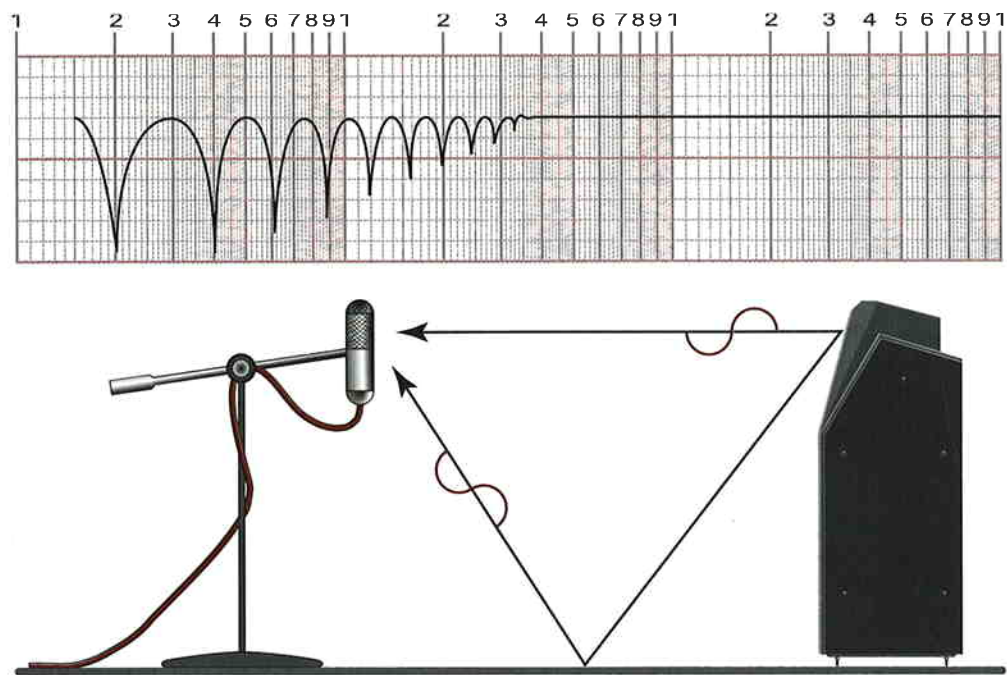
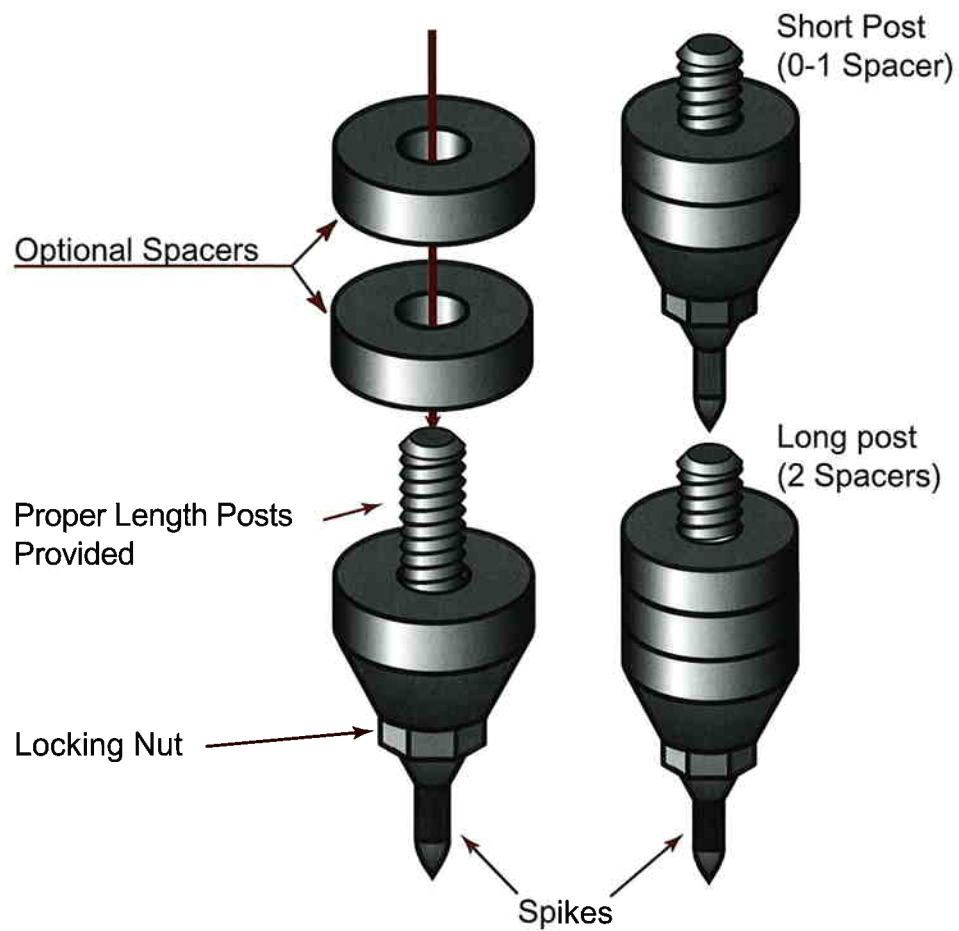

figure 7
figure 4
A special type of standing wave noticeable primarily at higher frequencies and shorter wave lengths is the so-called "comb filter effect" (*see figure 7*).
Acoustical comb filtering occurs when sound from a single source, such as a loudspeaker, is directed toward a microphone or listener at a distance. The first sound to reach the microphone will be the direct sound, followed by delayed reflected sound. Because the reflected sound lags in phase relative to the direct sound, there will be cancellation at certain frequencies where the two are 180 degrees out of phase, and augmentation at other frequencies where the direct and the reflected sounds arrive in phase. Because it is a function of wave length, the comb filter effect will notch out portions of the audio spectrum at regular octave-spaced intervals. The subjective effect of comb filter effects, (such as is shown in figure 4 and figure 7) is an added roughness to the sound, a reduction of harmonic richness and a smearing of lateral sound stage image focus and placement. The side wall reflections which cause the comb filter effects are best controlled by careful speaker placement and by the placement of Sonex or air duct panels applied to that part of the wall where the reflection occurs.
1. Insert either the short or the long threaded bolt, depending on the desired height (*see figure 4 next page*) as far as it will go into the hole in the bottom of the WITT.
2. If desired, place the corresponding number of spacer discs (*see figure 4 next page*) over the bolt.